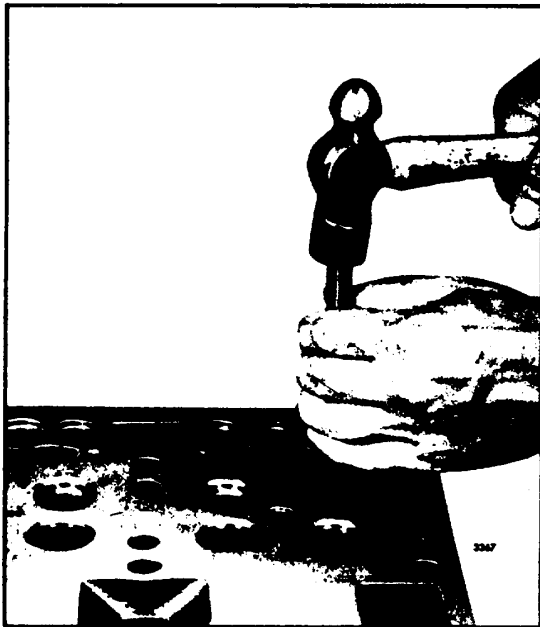

Fig. 5. - Removing Valve Guide
2. Drive the valve guide out of the cylinder head with valve guide remover: or J 7775 (four valve head) as shown in Fig. 5.